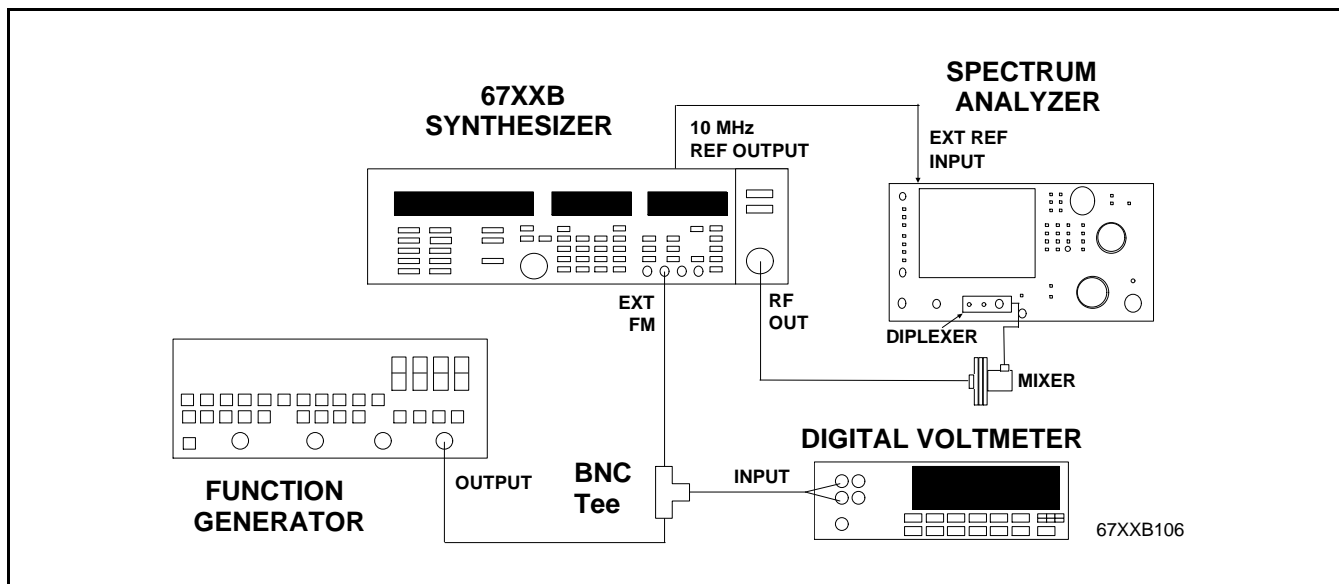

Figure 2-15. Equipment Setup for FM Modulation Tests (20 to 60 GHz)
1. Connect the equipment, shown in Figure 2-15, as follows: